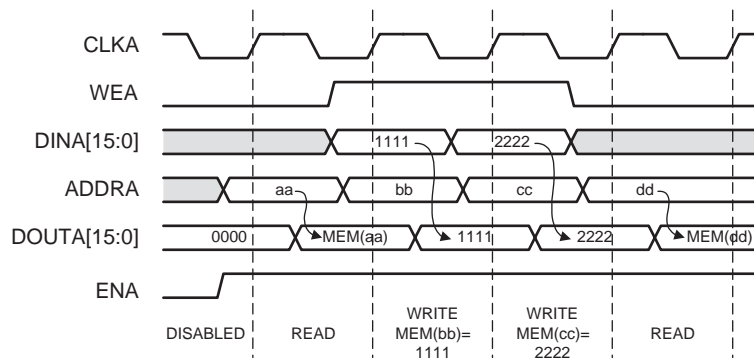

Figure 26: Write First Mode Example
- Write First Mode:** In WRITE_FIRST mode, the input data is simultaneously written into memory and driven on the data output, as shown in Figure 26. This transparent mode offers the flexibility of using the data output bus during a Write operation on the same port.